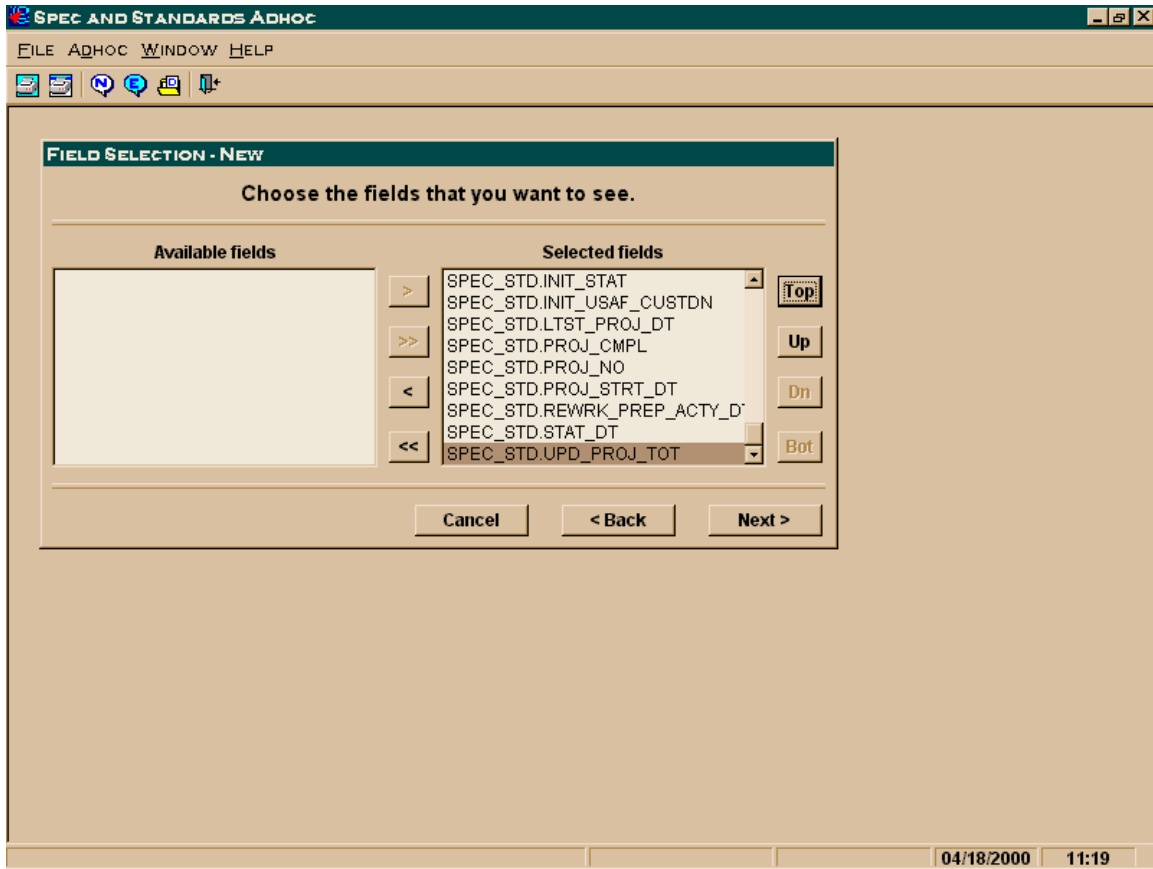

Figure 6.4c
e. Once you move any data element over to the Selected Fields area, additional buttons (< and <<) are activated. These allow you to move any or all of them back again. You may rearrange the order you want displayed on your output by clicking on the element and then clicking Top, Up, Dn (Down), or Bot (Bottom). Once satisfied that all the elements have been selected and with the order of your output, click [NEXT>] to continue (see Figure 6.4c).